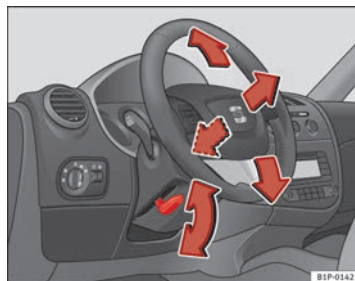

Fig. 114 Adjusting the steering wheel position
- Push the lever under the steering column ⇒ fig. 114 down ⇒ △.